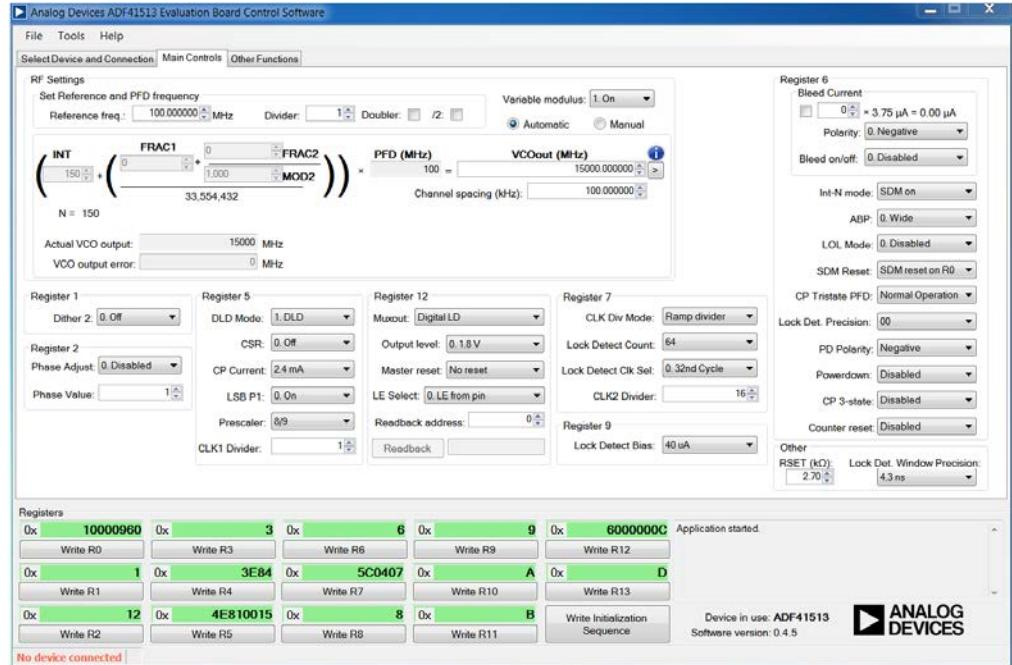

Figure 6. Software Front Panel Display, **Main Controls** Tab
The **Main Controls** tab (see Figure 6) selects the RF and user configurable register settings. Consult the register descriptions of the ADDF41513 data sheet for details. The default setting is recommended for most registers.
10. Click the **Main Controls** tab, and set the **VCOout (MHz)** box to a frequency of 15,000 MHz (see Figure 6).